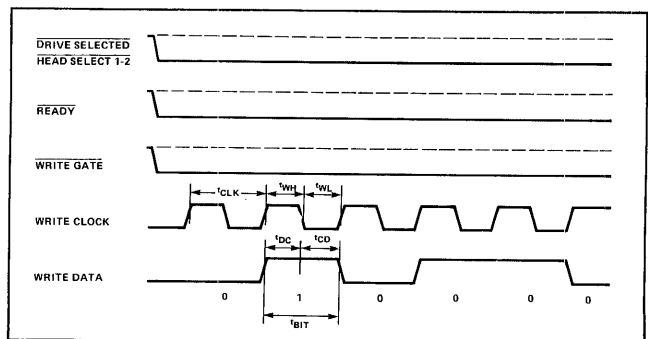

Figure 3-36. WRITE DATA and WRITE CLOCK Timing
5. **WRITE DATA and WRITE CLOCK Timing** WRITE DATA and WRITE CLOCK timing is shown in Figure 3-36. The AC characteristics are listed in Table 3-12.